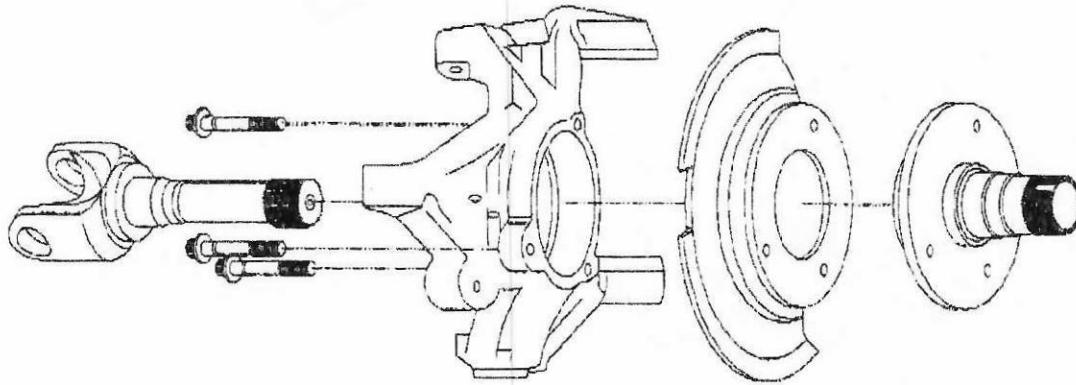

Figure 4. Exploded knuckle
7. Remove 3 bolts retaining the original hub (using 13 mm 12 pt socket) and bearing assembly. Do not disassemble the bearing assembly from axle shaft. See Figure 4. (For location reference only)
8. Remove axle shafts, brake shield, hub and bearing pack. See Figure 4. (For location reference only)
16. Place spindle over outer axle shaft and bolt on to steering knuckle. Torque 3 bolts to 75 ft. lbs. See Figure 4.